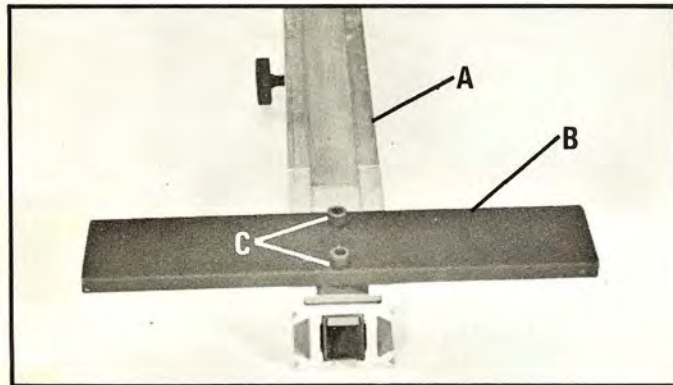

Fig. 20
5. Assemble wood support assembly (B) to cross-cut fence (A) Fig. 20, and tighten two socket head cap screws (C).